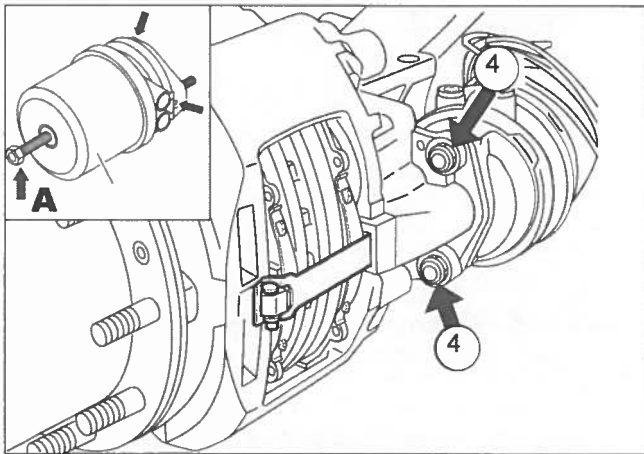

Figure 3 – Actuator Spring Caging and Removal
1. With the vehicle on a level surface and the wheels properly chocked, apply air to release the spring brakes (parking brakes) by using the dash-mounted air control valve. Back out the release bolt (See Figure 3, arrow "A"), using a maximum torque of 26 ft-lbs (35 Nm) to cage the air released spring force on the pushrod.
2. Exhaust the air from the spring brake chambers by using the dash-mounted air control valve. While supporting the chamber in position, remove and discard the brake chamber mounting nuts (Item 4) (See Figure 3). Mark the orientation of the chamber to the mounting bracket for remounting. Remove the spring brake chamber. If it becomes necessary to disconnect the air hoses to the chamber, with all air pressure drained from the system, mark the hoses for reconnection and then disconnect the hoses from the chamber.
2. Position the spring brake chamber in the same orientation it was removed. Secure the chamber with the spring brake chamber mounting nuts (Item 4). See Figure 3. Alternately tighten both the nuts step-by-step up to a final torque of 133 ± 7 ft-lbs (180 ± 10 Nm). Do not reuse the nuts that were removed during the disassembly.